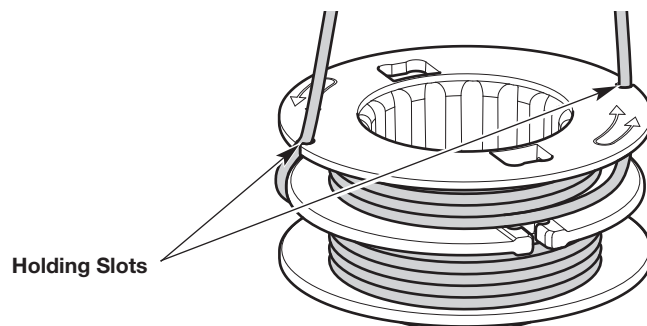

Fig. 22
4. Insert the two ends into the two holding slots (Fig. 22).